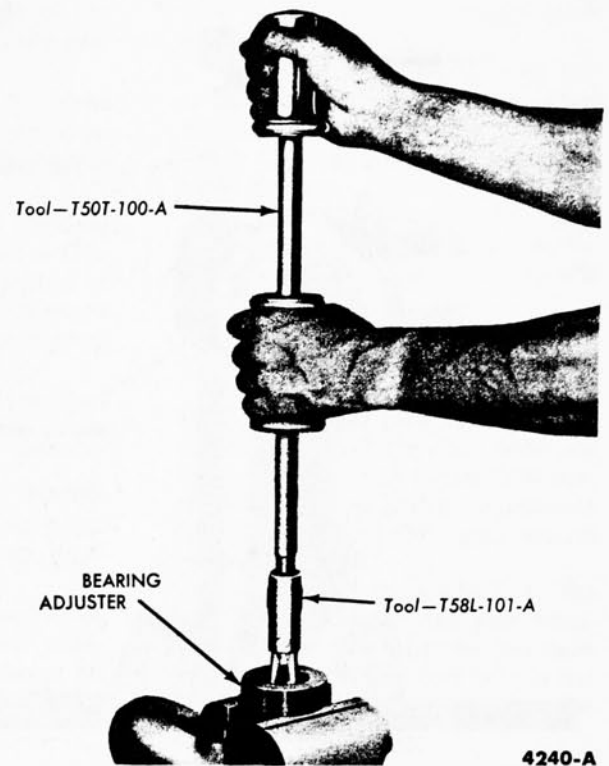

FIG. 6—Steering Shaft Upper Bearing Cup Removal
8. Place the bearing adjuster in a vise, and remove the upper bearing cup (Fig. 6). Remove the lower bearing cup using the same tool.